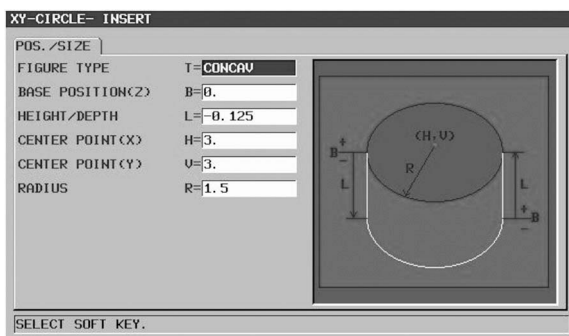

Figure 7-62 POCKETING, XY-CIRCLE, POS./SIZE
- Establish the POCKET FIGURE shape, size, and POSITION. Select item 2. XY-CIRCLE CONCAV from the options in the INSERT MILLING FIGURE dialog CONT. FIG. tab (Figure 7-62).
- With the cursor at the EOB character of the last line entered, use the Continuous Menu button to find the FIXFRM soft key and select it. Use the arrow key to select the Form 5 tab. From the list, select item 2. TOOL END; then press the INSERT soft key.